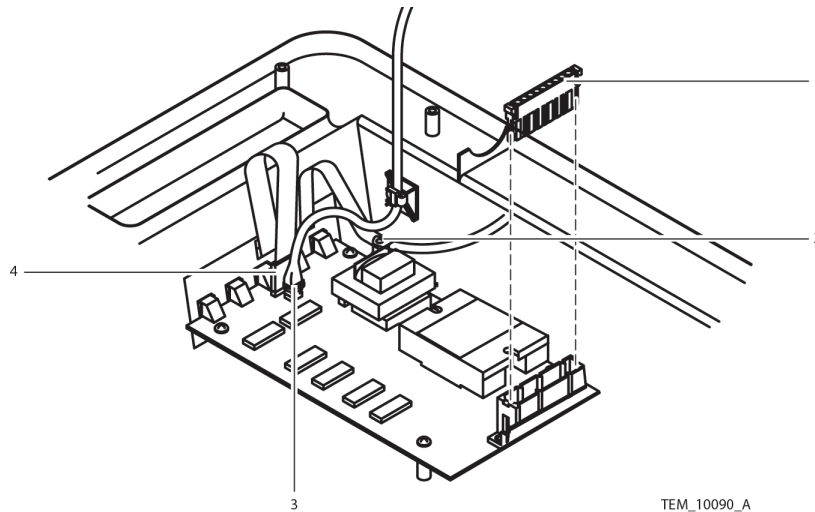

Figure 39. Cable Connections
11. Connect the ribbon cable (Figure 39, item 3).
13. Install a cable tie around the thermistor cable connector (Figure 39, item 4) and Control PCB connector to secure the thermistor cable to the PCBA.
14. Connect the 9-pin connector to the Control PCB (Figure 39, item 1).